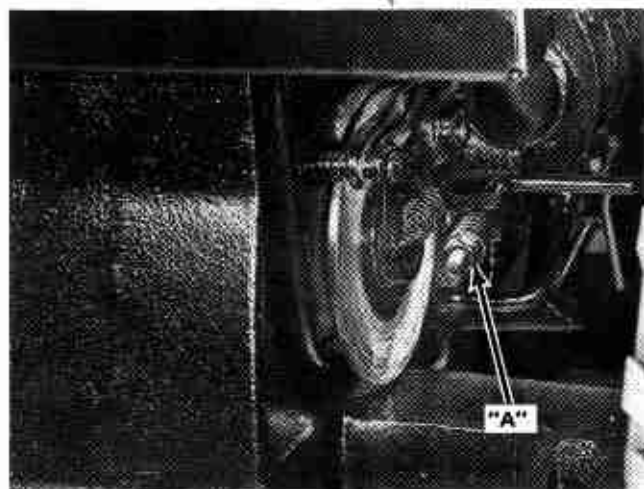

Figure 27
2. Turn hex lock nut "A," Figure 27 clockwise to tighten until 15 to 25 pounds pressure on the foot pedal is required to latch the parking lock.